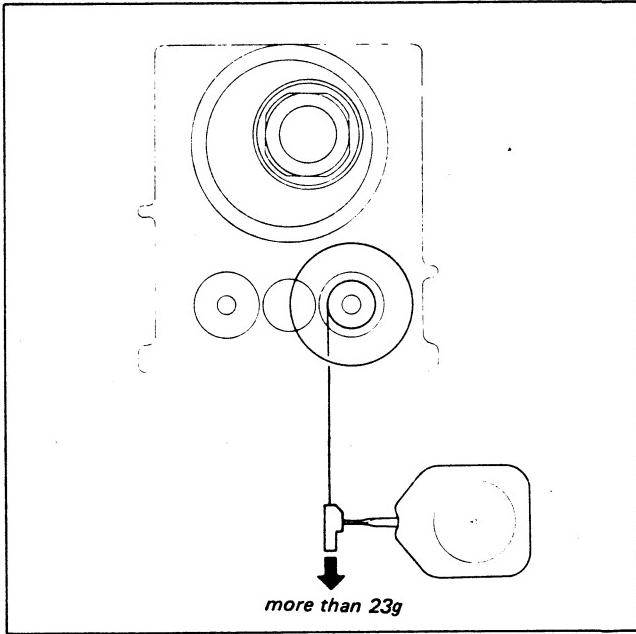

Fig. 3-62.
- 3) Pull the dial tension gauge (Ref No.J-6) in the direction of the arrow and confirm that the specifications are satisfied. (Fig. 3-62, 3-63)